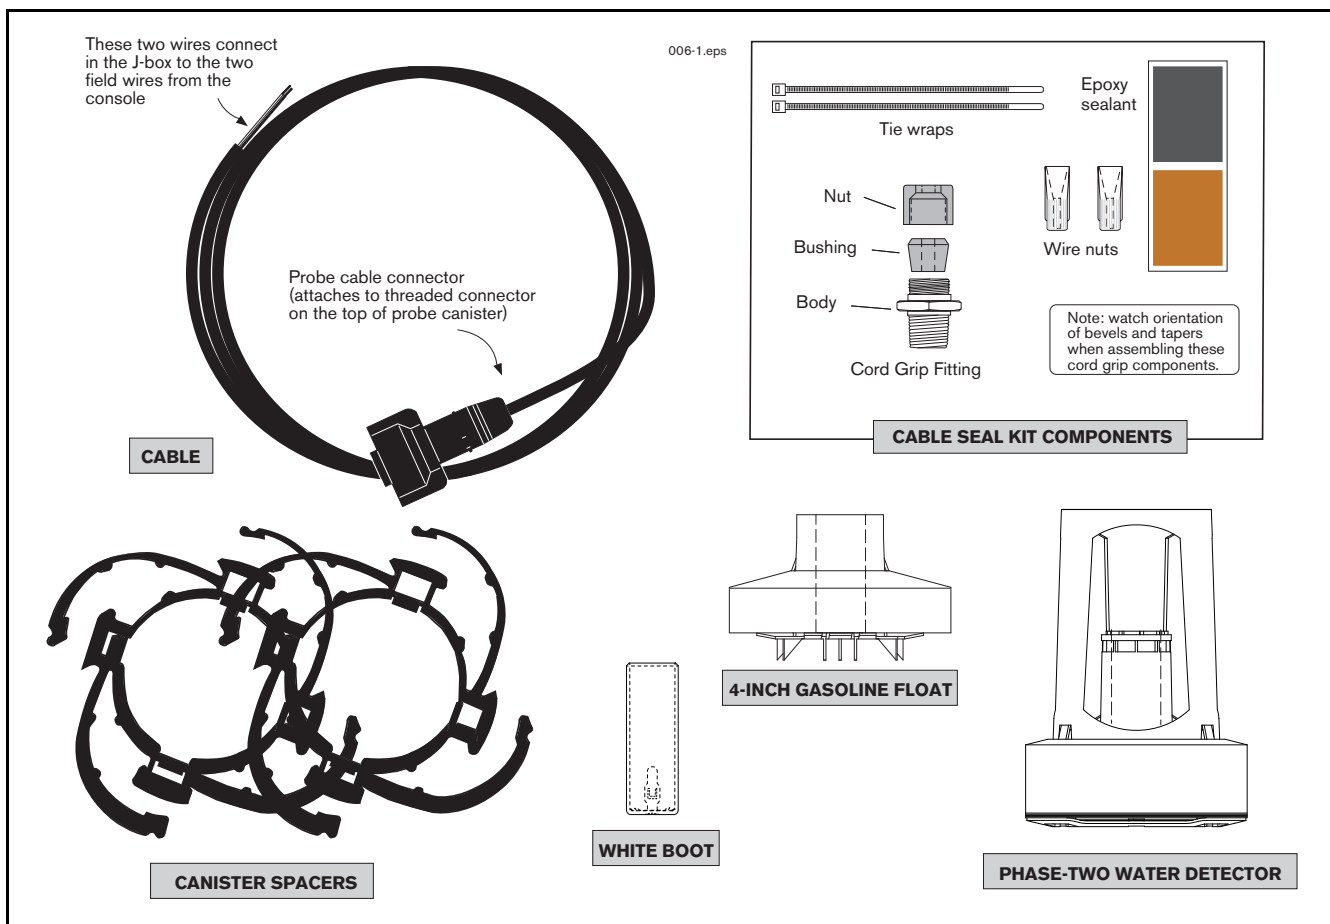
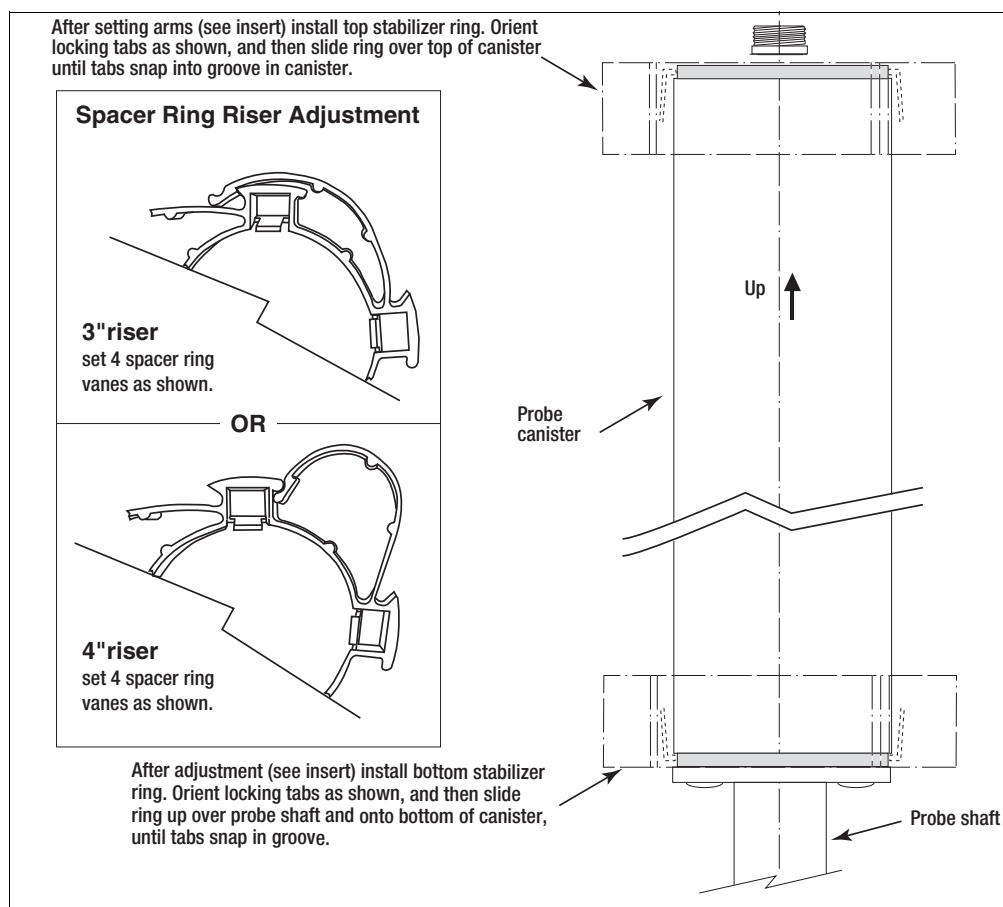

Figure 1. Identifying 4-Inch Phase-Two Float Kit Components
Figure 3. Installing Probe Canister Spacer Rings
The Mag Plus Probe 4-Inch Phase-Two Float Kit contents are listed in Table 1 and the kit components can be identified in Figure 1. The Mag Plus Probe 2-inch Phase-Two Float Kit contents are listed in Table 2 and the kit components can be identified in Figure 3.
2. Open the Phase-Two Float Kit. Set the adjustable arms of the rings for either a 4-inch riser or a 3-inch riser (see Figure 3) as required. Install the two rings onto the probe canister as shown.